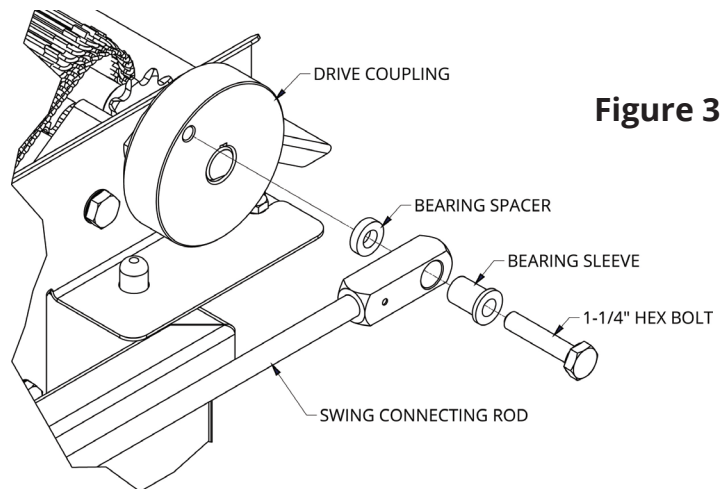

Figure 3
1. Using a 7/16" wrench, install the swing connecting rod to the drive coupling as shown in Figure 3.